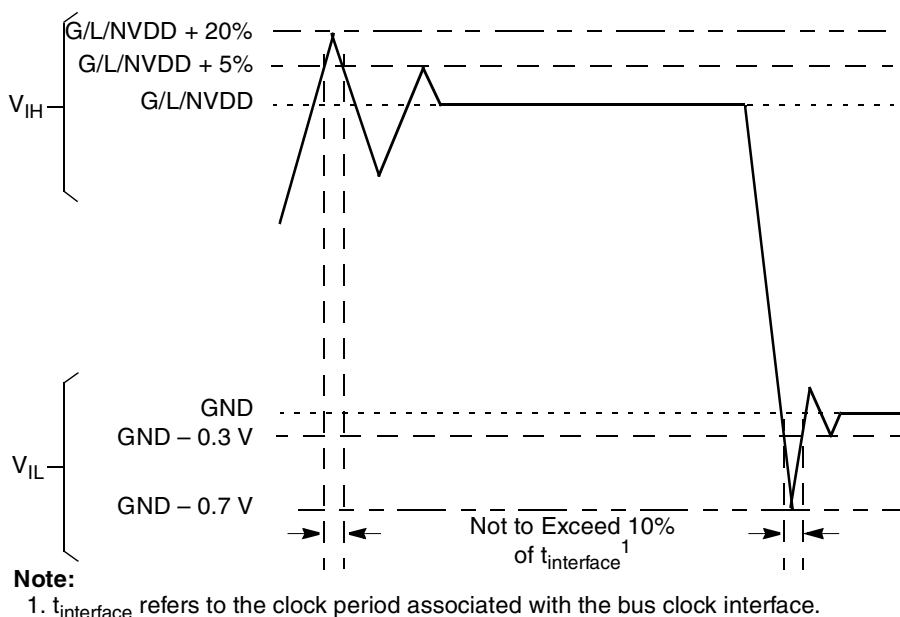

Figure 2. Overshoot/Undershoot Voltage for GVDD/NVDD/LVDD
4. (M,N,L)VIN and MVREF may overshoot/undershoot to a voltage and for a maximum duration as shown in Figure 2.
Figure 2 shows the undershoot and overshoot voltages at the interfaces of the MPC8315E.